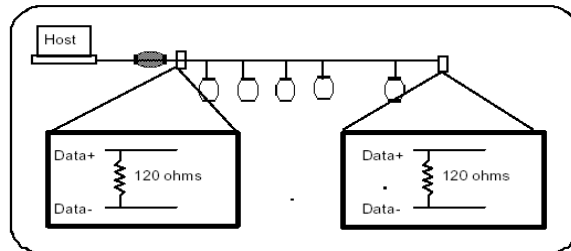

Figure A-2 Terminator Connection
7. **To prevent signal reflection, add a 120 Ohm resistor to the last module (see Figure A-2).**